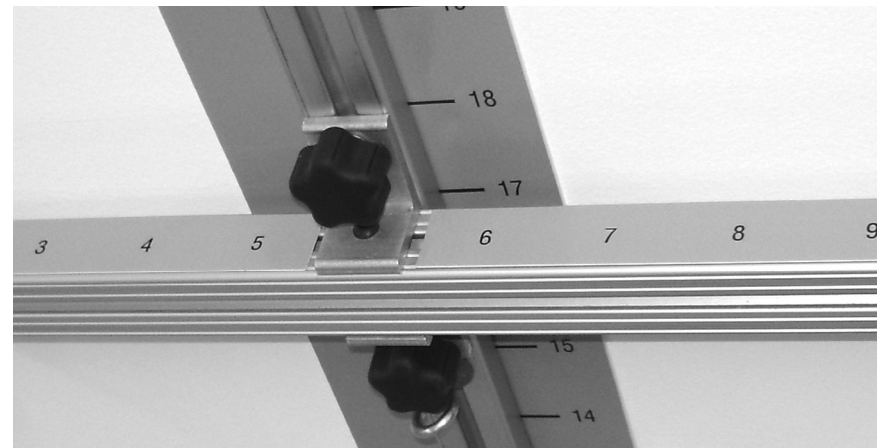

Figure 3 – Horizontal crossbar installed onto mounted lower track.
3. Install horizontal crossbar (wire hooks down, eye bolts out) by carefully sliding the tabs (Fig. 2) into the upper end of the lower t-track. Keep the long ends of the tabs pointing at each other (towards the middle of the horizontal bar). Position the crossbar so that the upper mounting screw is completely accessible to adjustment and final tightening. Tighten knobs (Fig. 3).